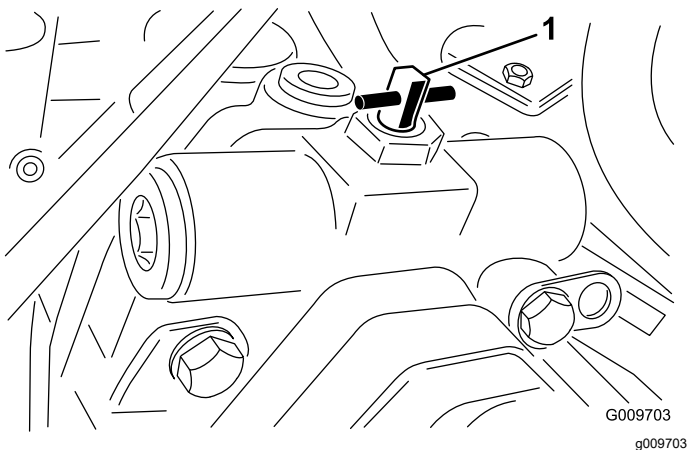

Figure 61
- Rotate the bypass valve 90° (1/4 turn) in either direction to open and allow oil to bypass internally (Figure 61). Because fluid is bypassed, the machine can be slowly moved without damaging the transmission. Note the position of the valve when opening or closing.